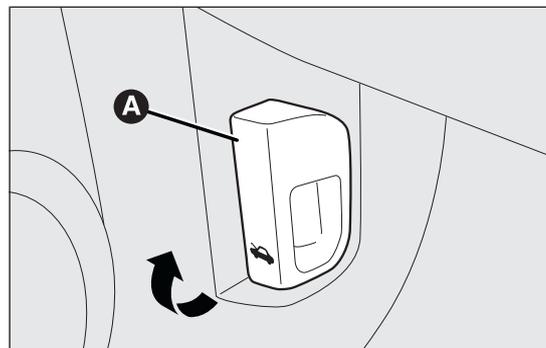

fig. 82
- pull lever A fig. 82 in the direction indicated by the arrow;